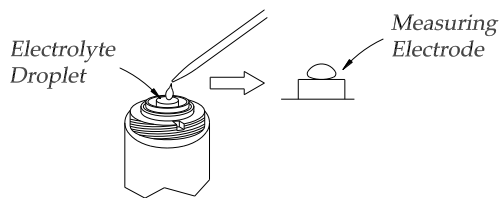

Fig. 5.1.7
6. Place a drop of fresh electrolyte carefully on the measuring electrode (fig. 5.1.7).